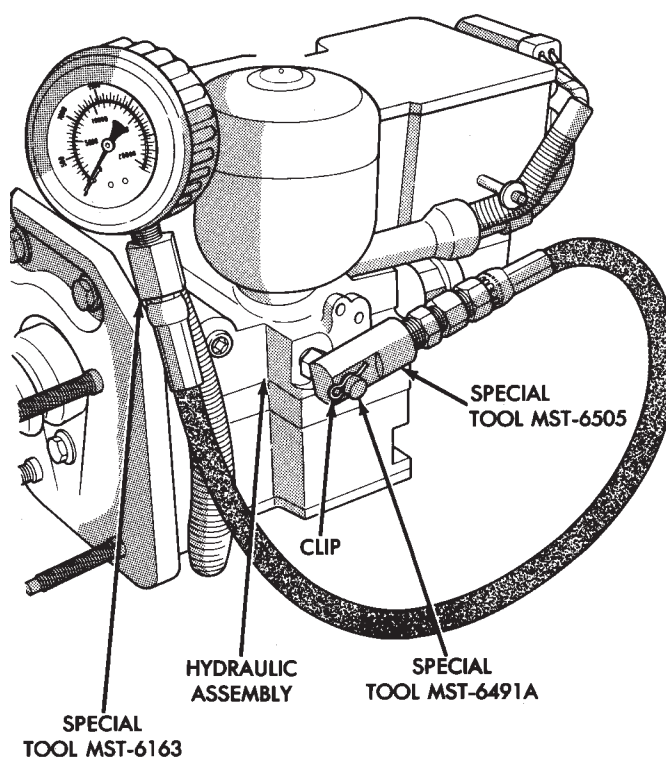

Fig. 2 Pressure Gauge and Adapter Installed on Hydraulic Assembly
Some diagnostic procedures in this manual require the use of the MST-6163 pressure gauge and adaptor (See Fig. 2) to measure accumulator pressure during certain phases of operation. The pressure gauge and adaptor should be installed as follows:
(3) Install pressure gauge to hydraulic assembly adaptor (Fig. 2) into accumulator port of hydraulic assembly, and tighten to 10 N•m (7.5 ft. lbs.) torque.
(4) Install adaptor onto the pressure gauge hose (Fig. 2) and tighten the fitting to 15 N•m (11 ft. lbs.) torque.
(5) Install pressure gauge and hose adaptor assembly onto the adaptor installed in the hydraulic assembly accumulator port. Then install the retaining clip into the groove on the accumulator port adaptor (Fig. 2). **MAKE SURE THAT THE RETAINING CLIP IS INSTALLED ON THE ACCUMULATOR PORT ADAPTOR BEFORE RE-PRESSURIZING THE HYDRAULIC SYSTEM.**